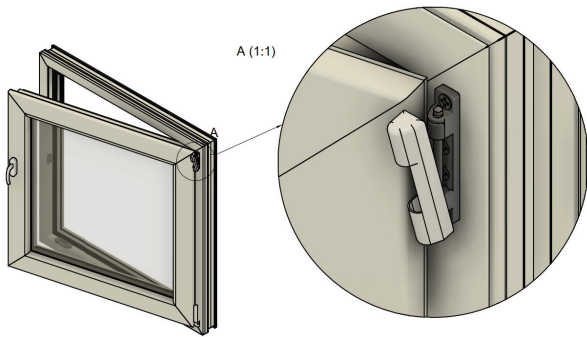

Figure 17
2. Remove the hinge cover. (Figure 17)